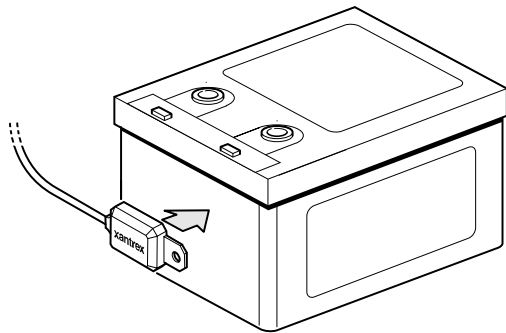

Figure 11 BTS Mounted on the Battery Case
5. Press the sensor firmly against the clean side of the battery to fix it in place, as shown in Figure 11.